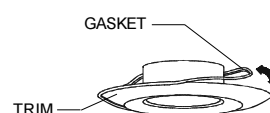

FIG.13
- For added protection in shower application , install the gasket for water-tightness (included). Gently fasten onto the trim. (Fig.13)